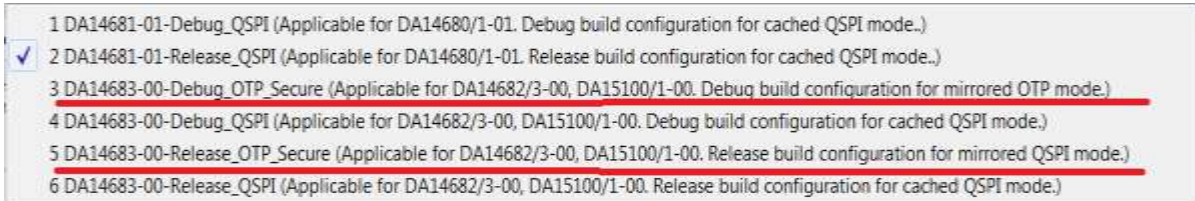

Figure 48: Secure Boot – Build Configurations
Note 18 Secure Boot loader is stored in the OTP by default. Proper build configuration of the project must be used in order for the Secure Boot's features to be available. Each configuration with `_Secure` suffix builds Secure Boot Loader as shown in Figure 48.
2. Build ble_suota_loader project using DA14683-00-Release_OTP_Secure build configuration (Figure 48)